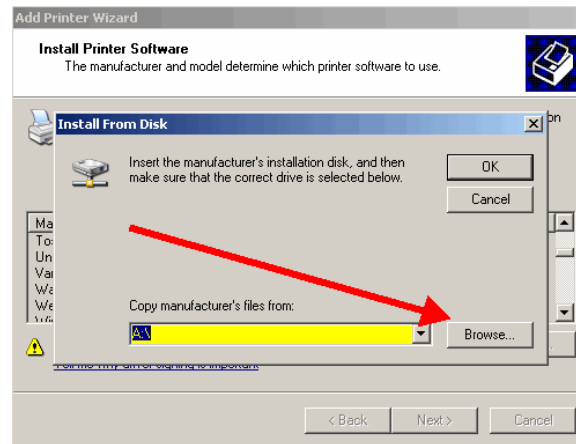

Figure 15
19. Click the Browse button on the Install from Disk window. (Figure 15)